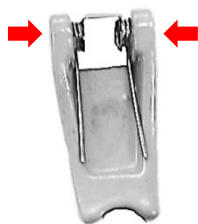

Fig. 3: Positioning the spring
4. Tension the spring between the holes of the safety flap, the spring legs must rest on the base of the safety flap (see Fig. 3).